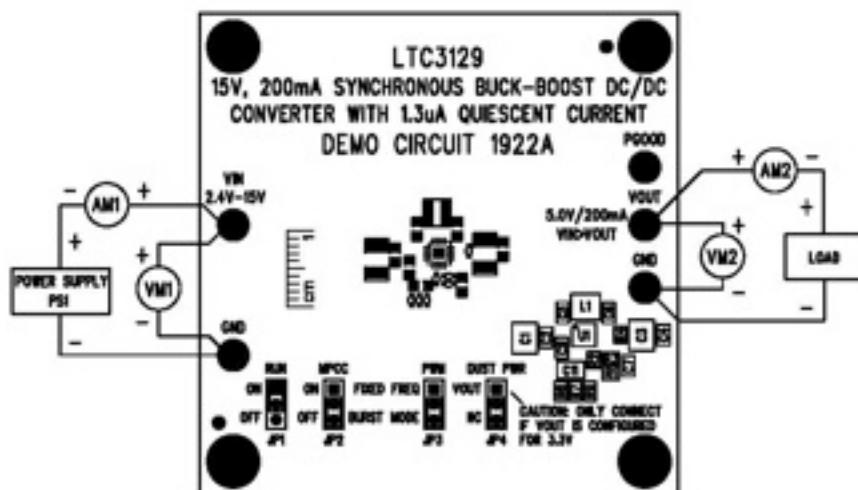

Figure 3. Proper Measurement Equipment Setup
Using short twisted pair leads for any power connections and with all loads and power supplies off, refer to Figure 3 for the proper measurement and equipment setup. The power supply (PS1) should not be connected to the circuit until told to do so in the procedure below.
- With power OFF connect the power supply (PS1) as shown in Figure 3. If accurate current measurements are desired (for efficiency calculations for example) then connect an ammeter (AM1) in series with the supply as shown. The ammeter is not required however.
- Connect a 50mA load to V_{OUT} as shown in Figure 3 (100Ω for $V_{OUT} = 5V$). Connect an ammeter (AM2) if accurate current measurement or monitoring is desired.